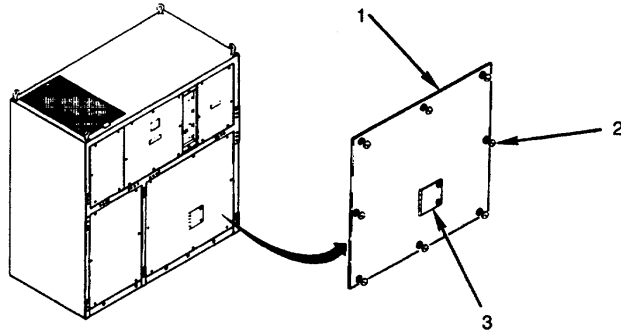

Figure 4-20. Right Front Condenser Panel Installation
- c. Install Right Front Condenser Panel. Install panel (1) and tighten eight captive fasteners (2). Ensure inspection/service door (3) is closed (see Figure 4-20).